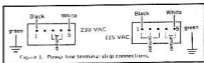

Figure 1. Power line terminal strip connections.
**POWER CABLE** - The 1KD-5 comes from the factory wired for operation from a 230 VAC, single-phase, 60 Hz power source. The green wire in the power cord is the ground wire and must be connected to the neutral pin of the plug that you select for connection into the power line. The black and white wires must be connected to the other two pins for 230 VAC operation. Because there are several types of 230 VAC outlet sockets, a power plug has not been included with the amplifier. For 115 VAC operation, it is only necessary to change the jumper connections on the terminal strip behind the small door on the rear panel of the amplifier. Figure 1 shows the jumper connections for 115 and 230 VAC. Be sure that the jumpers are clear of the cover when the adjustment is complete to avoid any possibility of shorting the AC line to ground.
**AC POWER CONNECTOR TERMINAL BOARD** - This terminal board is used to adjust the power transformer taps for 115 or 230 VAC operation. Figure 1 describes the necessary jumpers for each type of operation.